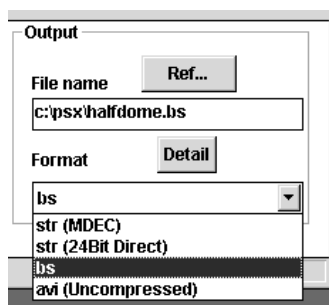

Figure 2 — Output Format Popup Menu
- 2) The output filename is not complete because we still haven't specified the output format. Click on the *Format* popup menu in the *Output* section and select the "BS" format, as shown in Figure 2.